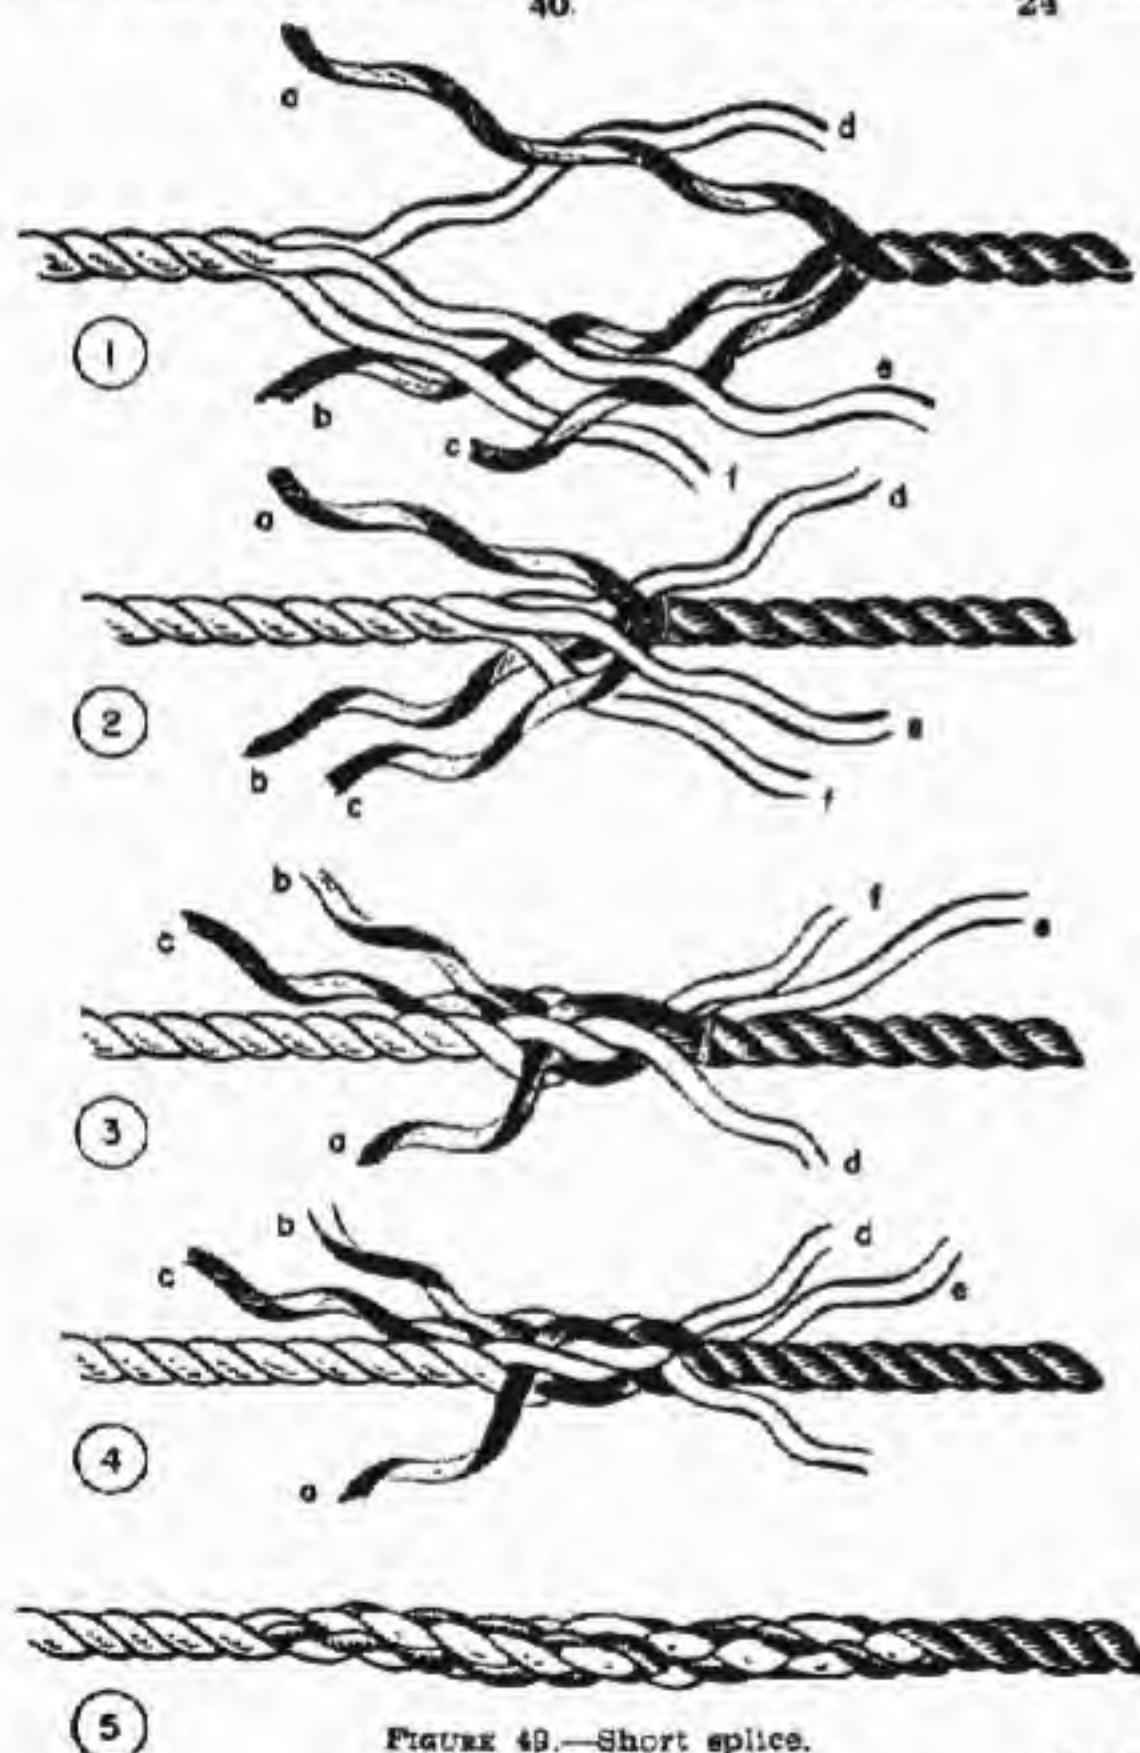

FIGURE 49.—Short splice.
■ 23. **SHORT SPLICE** (fig. 49).—a. Short splicing is the best method to join two ropes when an appreciable increase of